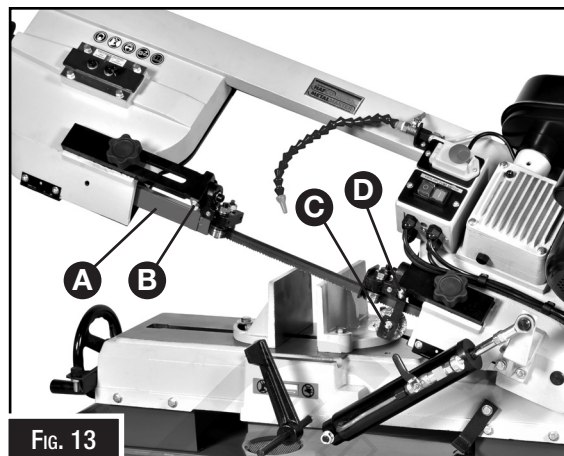

FIG. 13
3. Remove red blade guard assembly (A, Fig. 13) by removing two screws (B).
4. Remove brush assembly (C, Fig. 13) by removing two screws (D).